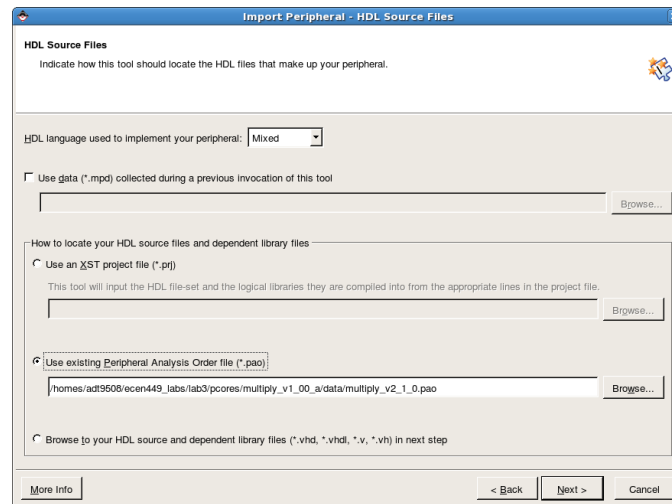

Figure 6: HDL Source Files
- For the 'HDL Source Files' window, set the 'HDL language used to implement your peripheral' to 'Mixed'. This is needed because the default language in Xilinx is VHDL so the bus logic is generated in VHDL and our user logic is in Verilog. In addition, select 'Use existing Peripheral Analysis Order file (*.pao)' and click 'Browse' to navigate to the *.pao file under the 'data' directory within the 'pcores/multiply_v1_00_a' directory (Figure 6). Click 'Next' to continue.